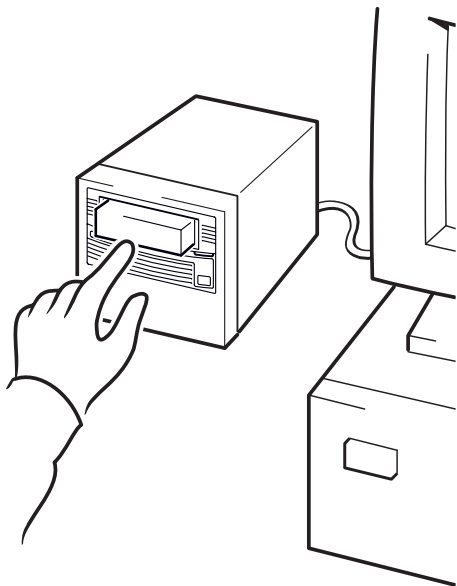

Figure 10a: using HP OBDR, step 1
- 1 Insert the latest bootable cartridge in the tape drive (see figure 10a). The cartridge must be written by a backup application that writes data to tape in CD-ROM format.